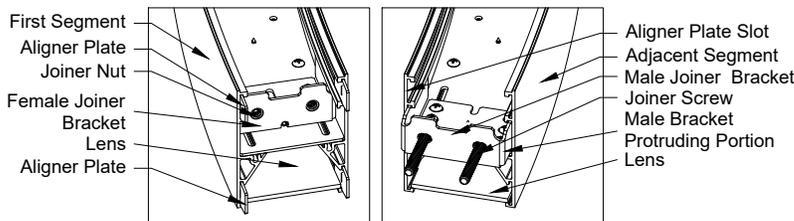

Fig. 7. Joiner Details
1. Fixture segments shipped with preinstalled joiner hardware (see Fig. 7). Lay down all segment (lens down) on the floor to roughly form the circle. Each segment has female joiner with (2) nuts (shown on Fig. 7 at left) and male joiner with (2) bolts (shown at right). Make sure segments laid down on proper succession.